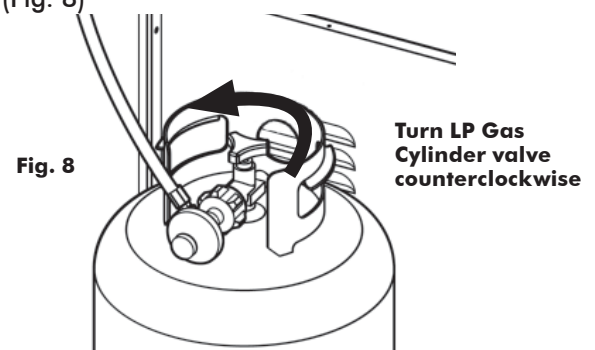

Fig. 8
3. Turn the LP Gas Cylinder valve open counterclockwise until it stops. (Fig. 8)
3. Turn the LP Gas Cylinder valve open counterclockwise until it stops. (Fig. 8 p.22)